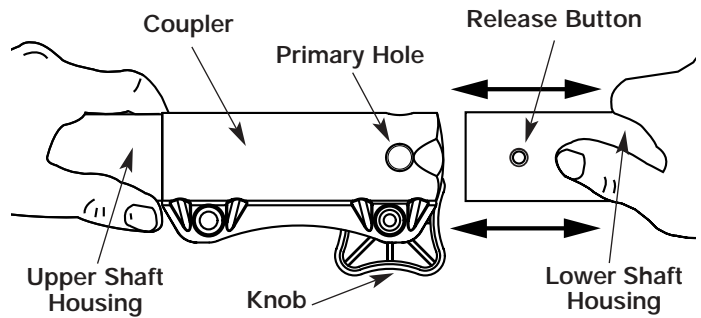

Fig. 2
3. While firmly holding the upper shaft housing, pull the add-on out of the coupler (Fig. 2).
3. While firmly holding the add-on, push it straight into the coupler (Fig. 2).
CAUTION: Lock the release button in the primary hole (Fig. 2) and securely tighten the knob before operating this unit.